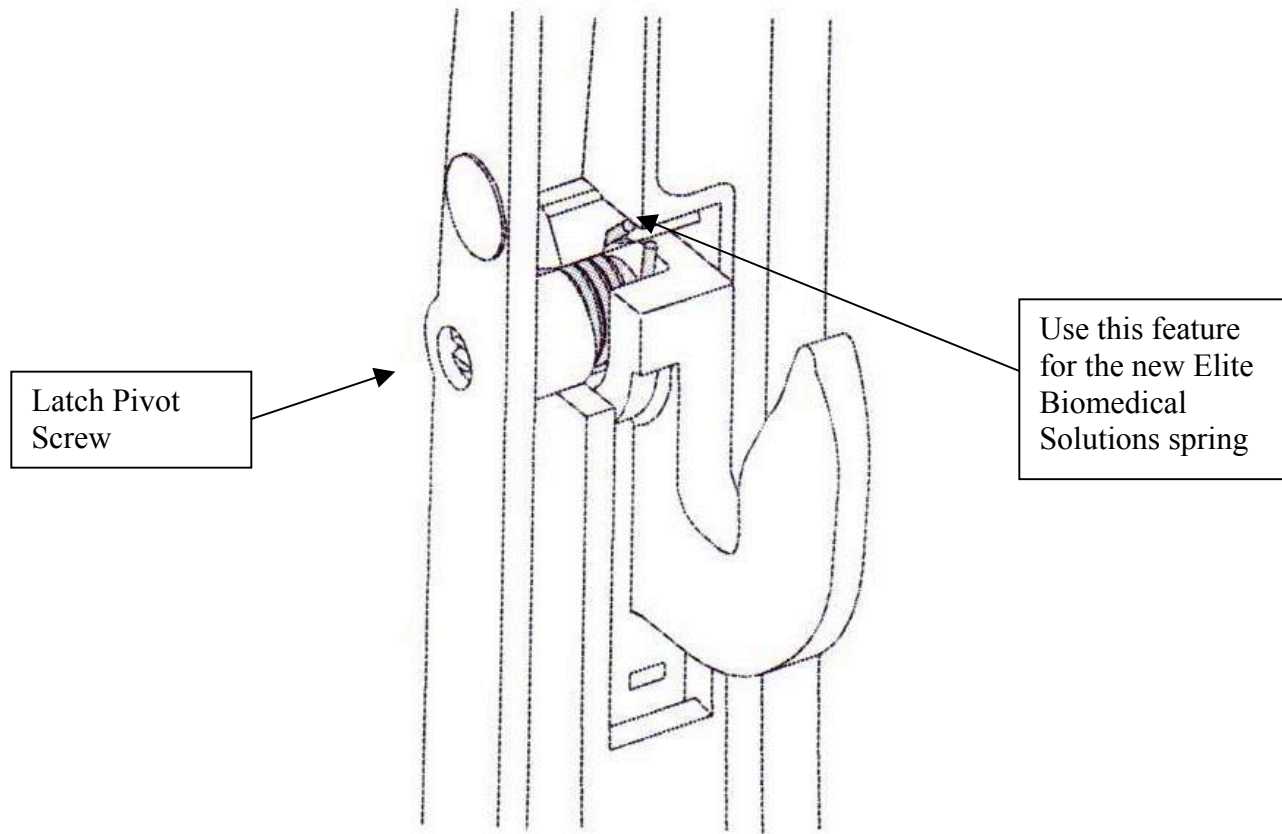

Figure 4
1. Re-assemble with the new Elite Biomedical Solutions door in reverse order using the Elite Biomedical Solutions Door Latch Torsion Spring provided in the kit. (See Figure 4 below)